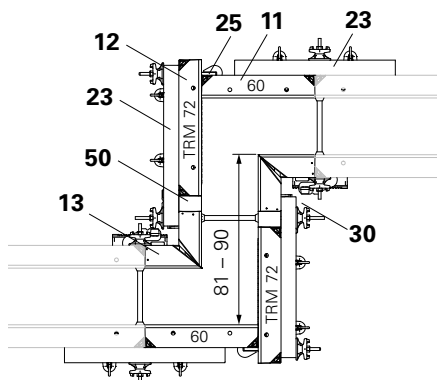

Fig. A10.03
- Panel TR 60 (11)
- Multi-Purpose Panel TRM 72 (12)
- TRIO Inside Corner TE (13)
- Compensation Waler TAR 85 (23)
- Stopend Tie (25)
- Compensation provided by the contractor (50)
- Additional tie points (30)
- (Fig. A10.03)